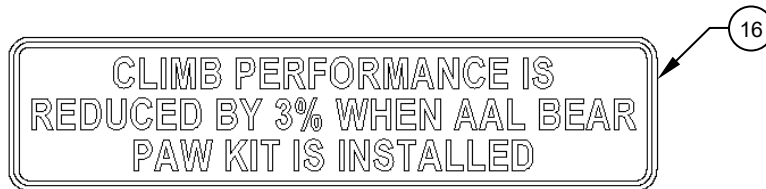

Figure 6
7. Install the Decal, Detail (Item 16) in a highly visible location on the instrument panel. Reference Figure 6.